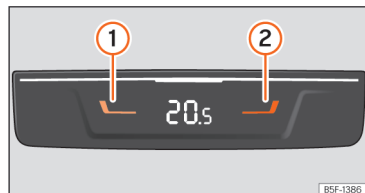

Fig. 112 In the centre console, rear section: controls for the rear seats.
- Press buttons  and  \ggg Fig. 112 to adjust the temperature of the rear zone.